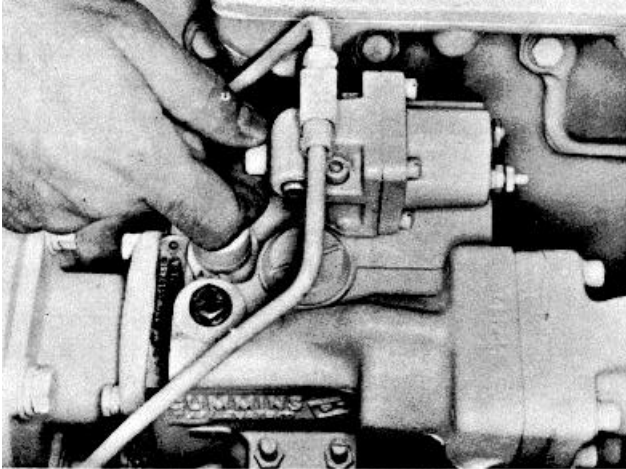

Fig. 1-9 (V21970). Using manual override knob
3. Open the manual fuel shut-down valve, if so equipped. Fig. 1-9. Electric shut-down valves operate as the switch is turned on. A manual override knob provided on the forward end of the electric shut-down valve allows the valve to be opened in case of an electric power failure. To use, turn fully clockwise; return it to the run position after an electric repair.